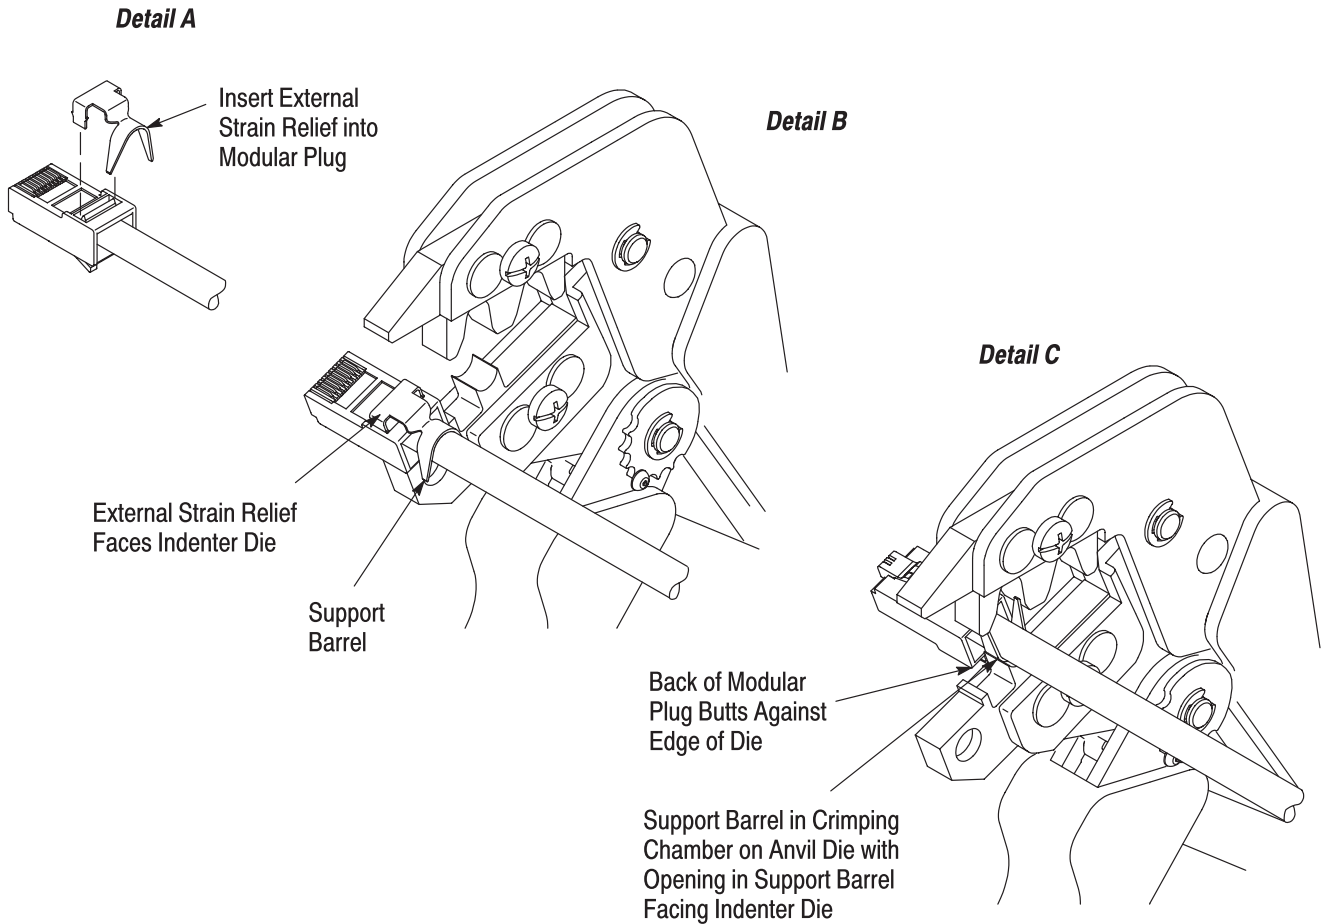

Figure 3
Assemble the modular plug connector according to Application Specification 114-6016. Insert the external strain relief into the modular plug as shown in Figure 3, Detail A, and proceed as follows:
2. Position the modular plug assembly in the seating chamber on the anvil die as shown in Figure 3, Detail B. Make sure that the external strain relief faces the indenter die and that the support barrel does not enter the seating chamber.
4. Position the modular plug assembly in the crimping chamber on the anvil die so that the opening in the external strain relief support barrel faces the indenter die. Make sure the back of the modular plug butts against the edge of the die. See Figure 3, Detail C.